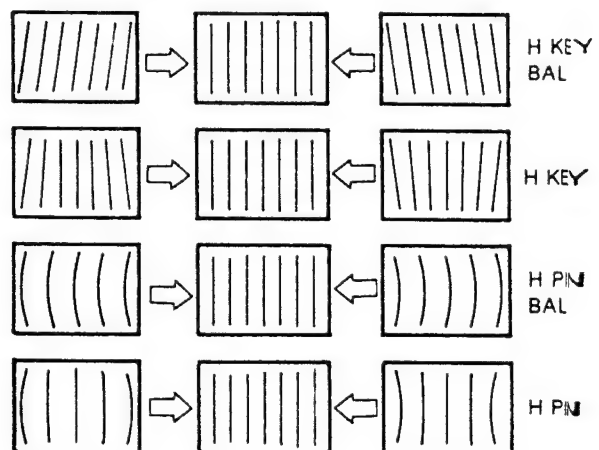

Fig. 1-11.
10. Adjust the H KEY BAL, H KEY, H PIN BAL, and H PIN data so that there is no side trapezoid distortion and PIN distortion as shown in Fig. 1-11.